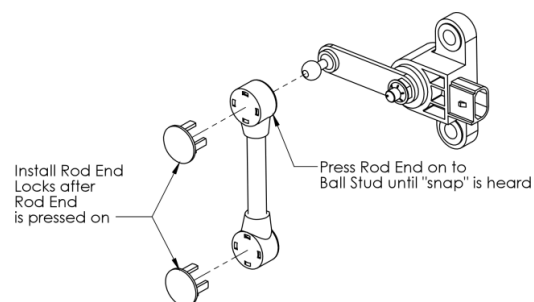

Figure 25. Height Sensor Plastic Linkage End Installation
4. Snap the Linkage Assembly to the ball stud attached to the lower control arm and to the ball stud on the Height Sensor arm. Refer to **Figure 25** or **Figure 26** for detail of linkage.